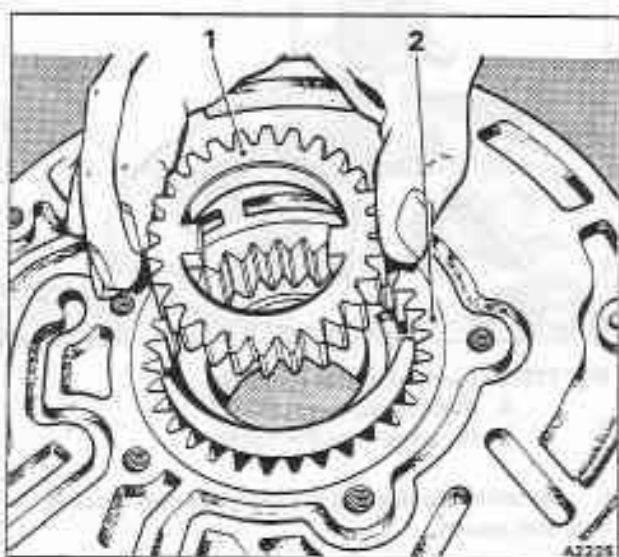

Fig. T17-3 Removing the pump gears
7. Remove the gears from the pump body as shown in figure T17-3.
Fit the drive gear with the drive tangs uppermost (see fig. T17-3).